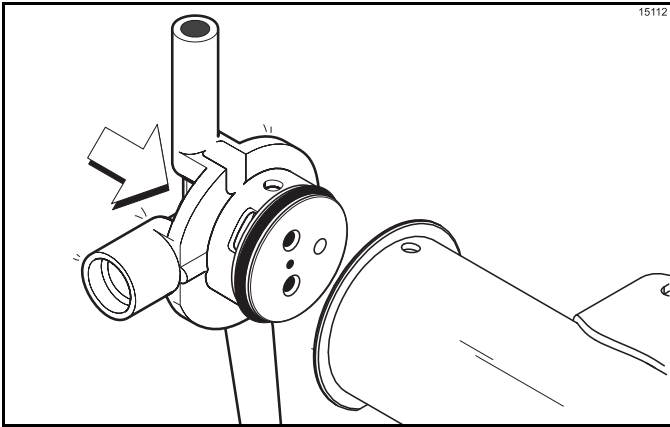

Figure 6-29
8. Insert the mix inlet assembly into the pump cylinder. (See Figure 6-29.)